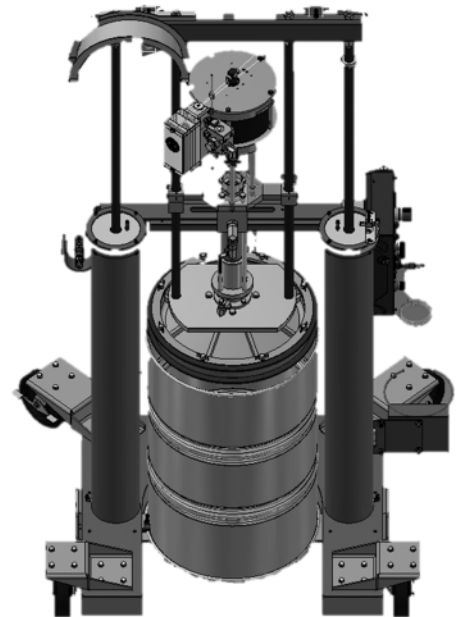

Figure 2. Centering a Drum
1. Wheel the unit to drum location and position ram over the drum so that the drum is centered between the ram posts and underneath the cross bar, as shown in Figure 2.
2. Lower the plunger and stop just above the drum, as shown in Figure 2. (Cylinders will be marked with stop point).